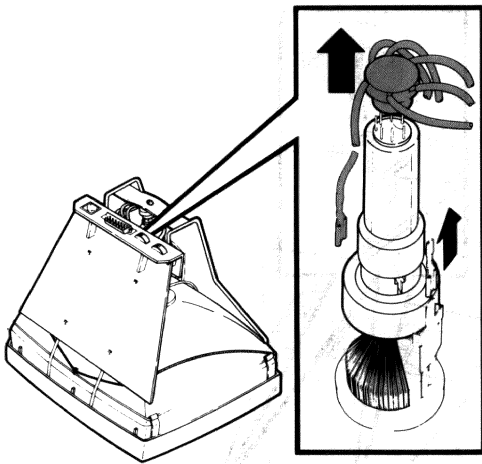

Figure 5-43 Removing CRT Connector
12. Unplug the connector from the neck of the CRT as shown in Figure 5-43.